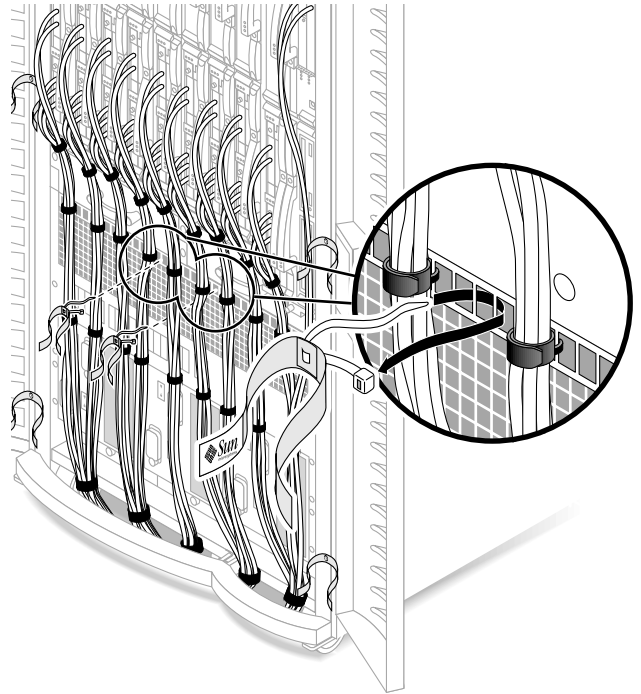

FIGURE 10 Air Plenum Maintenance Strap
2. At the center of the air plenum cutouts, securely tie one 12.0 in. (30.5 cm) green cable hanger strap (No. 1), with tie wrap, between slot SB2 and SB3 and cut off the end of the tie wrap (FIGURE 10).